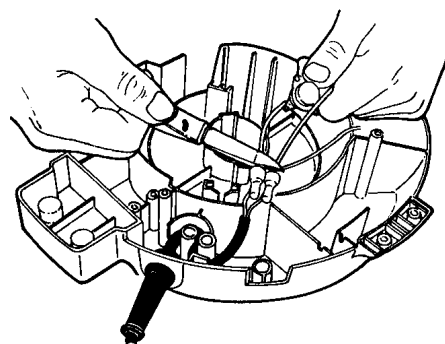

Fig.6
1. Cut off the lead wire (Black/Brown) and lead wire (White/Blown) to replace the Power Cord. (Fig.6)